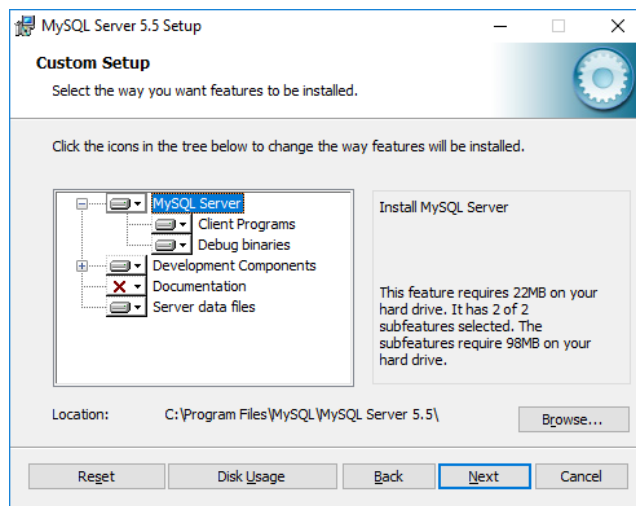

Figure A5
5. Select an installation location by clicking "Browse" or click "Next" to use the default location, then click "Install". (Figure A5)